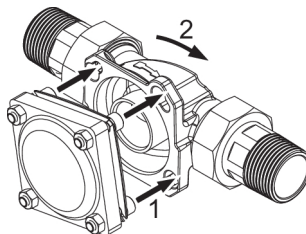
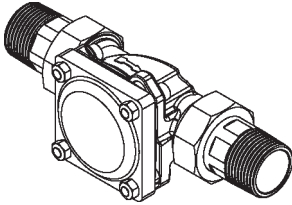

Fig. 5: Place and engage
Fig. 6: Connection engaged
1. Insert the heads of the four flange screws through the bayonet holes on the rotary flange fitting (see Figure 5).
- Turn the device in a clockwise direction up to the stop (see Figure 5 and Figure 6).